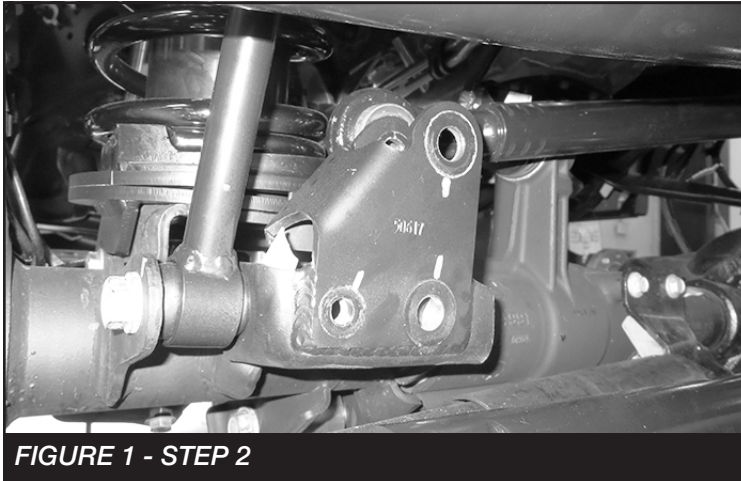

FIGURE 1 - STEP 2
2. Disconnect the factory track bar from the axle bracket. Remove the hardware attaching the Fabtech bracket to the factory bracket. Save all hardware. **SEE FIGURE 1**